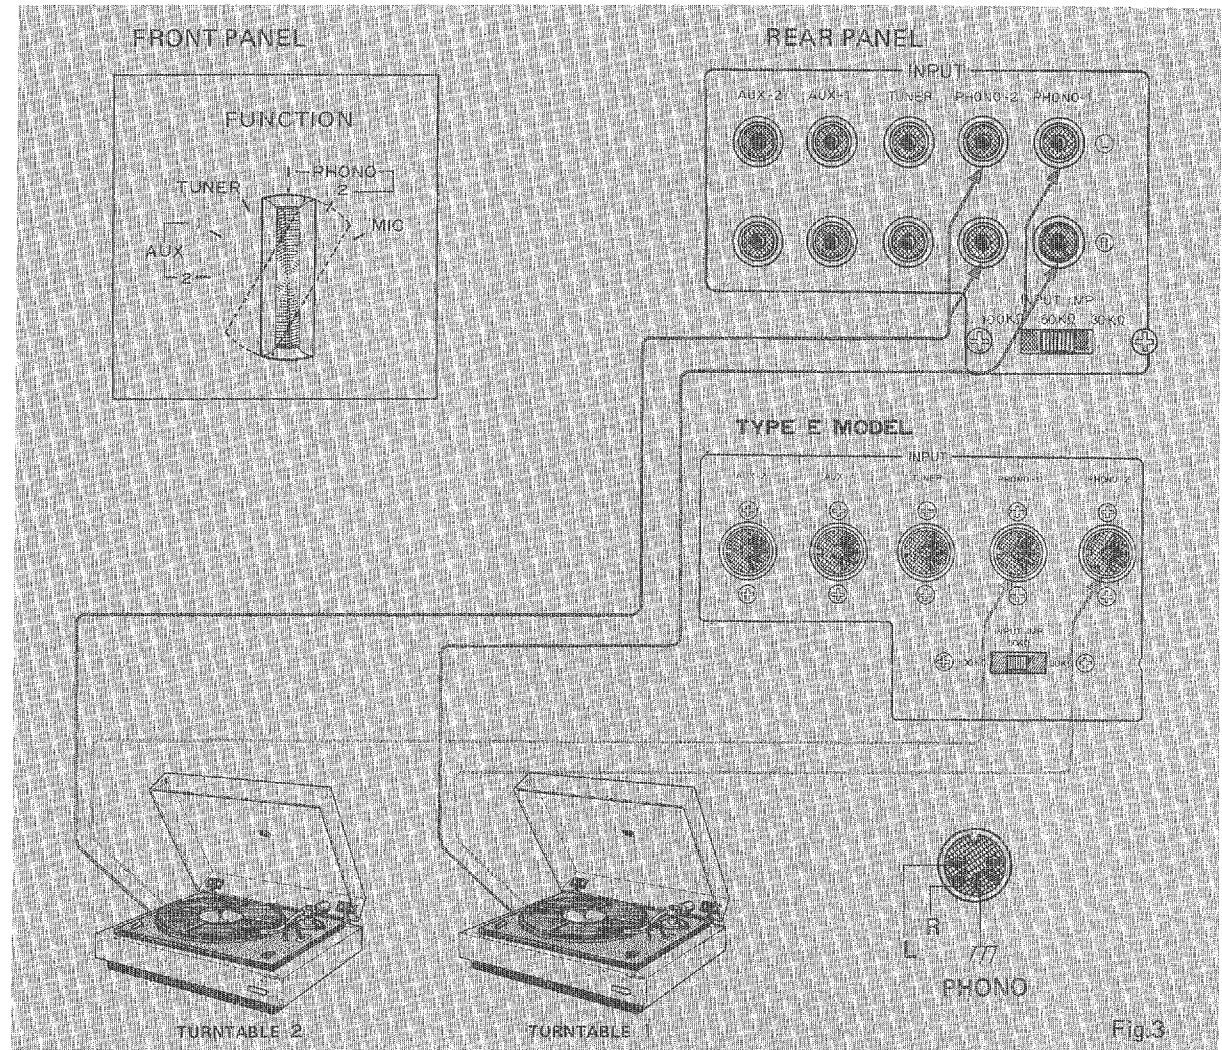

Fig.3
There are two sets of Phono inputs, permitting connection of two record players with moving magnet cartridges. In addition, the Phono 1 terminals can be switched via the Input Imp. selector to accept signals from a record player with a moving magnet (MV), an induced magnet (IM) or a moving iron (MI) cartridge. (30k Ω , 50k Ω or 100k Ω —See Fig.3)